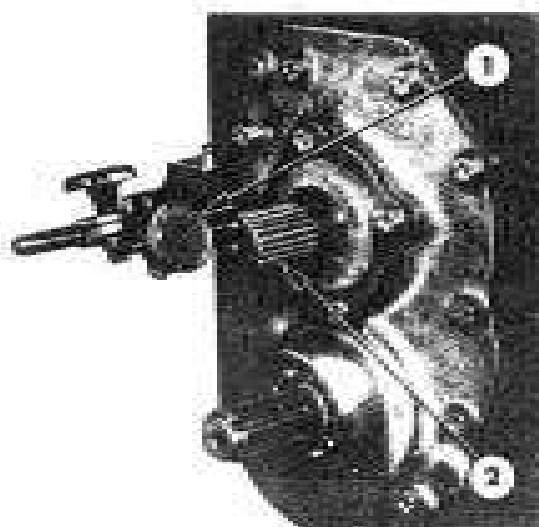

Figure 46
- (iii) Position the plunger of a dial indicator gauge against the end face of the outputs haft, Figure 46. Move the shaft in and out and note the end play reading. If no end play is registered, add additional shims to produce a gauge reading.